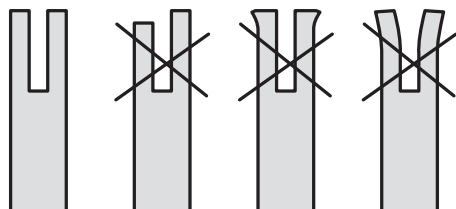

Fig. 41
5. Check the guide bar 'rail' for wear: Hold a ruler (straight edge) against the side of the guide bar and 'cutter side plates'. If there is a gap between the ruler and guide bar the guide bar 'rail' is normal. If there is no gap (ruler flush against the side of the guide bar) the guide bar 'rail' is worn and needs to be replaced with a new one of the same type (Fig. 41).